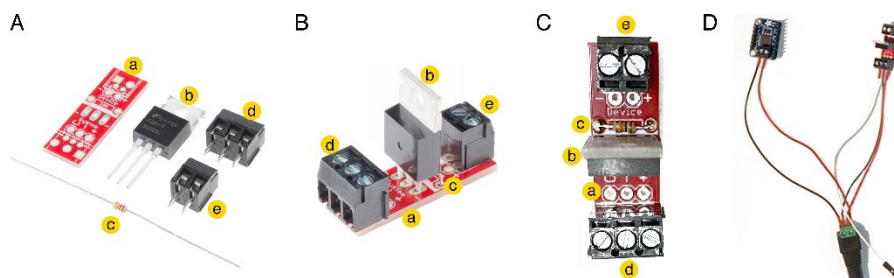

Figure 5. Assembling the SparkFun MOSFET power control kit
- Solder the resistor, transistor and both screw terminals to the SparkFun MOSFET power control kit board (**Fig. 5**).
- Trim the ends of **b** and **c** after the soldering is complete (**Fig. 5**).